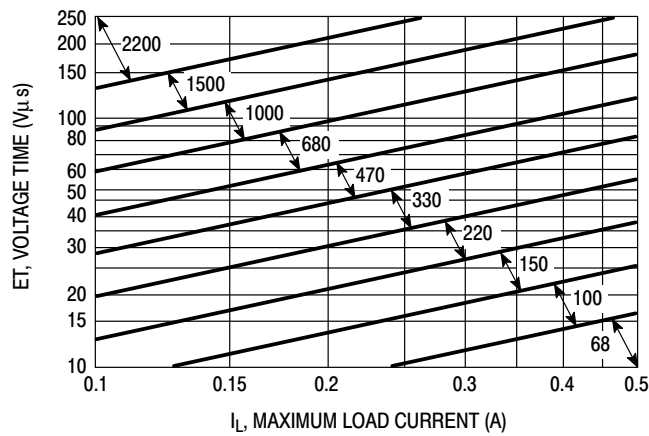

Figure 23. LM2574-ADJ
4. Inductor Selection (L1) A. Use the following formula to calculate the inductor Volt x microsecond [V x μs] constant: $E \times T = (V_{in} - V_{out}) \frac{V_{out}}{V_{in}} \times \frac{10^6}{F[\text{Hz}]} [V \times \mu s]$ B. Match the calculated E x T value with the corresponding number on the vertical axis of the Inductor Value Selection Guide shown in Figure 23. This E x T constant is a measure of the energy handling capability of an inductor and is dependent upon the type of core, the core area, the number of turns, and the duty cycle. C. Next step is to identify the inductance region intersected by the E x T value and the maximum load current value on the horizontal axis shown in Figure 27. D. From the inductor code, identify the inductor value. Then select an appropriate inductor from Table 2. The inductor chosen must be rated for a switching frequency of 52 kHz and for a current rating of $1.15 \times I_{Load}$. The inductor current rating can also be determined by calculating the inductor peak current: $I_{p(max)} = I_{Load(max)} + \frac{(V_{in} - V_{out})t_{on}}{2L}$ where t_{on} is the "on" time of the power switch and $t_{on} = \frac{V_{out}}{V_{in}} \times \frac{1.0}{f_{osc}}$ For additional information about the inductor, see the inductor section in the "External Components" section of this data sheet.	4. Inductor Selection (L1) A. Calculate E x T [V x μs] constant : $E \times T = (40 - 24) \times \frac{24}{40} \times \frac{1000}{52} = 105 [V \times \mu s]$ B. $E \times T = 185 [V \times \mu s]$ C. $I_{Load(max)} = 0.4 \text{ A}$ Inductance Region = 1000 D. Proper inductor value = 1000 μH Choose the inductor from Table 2.